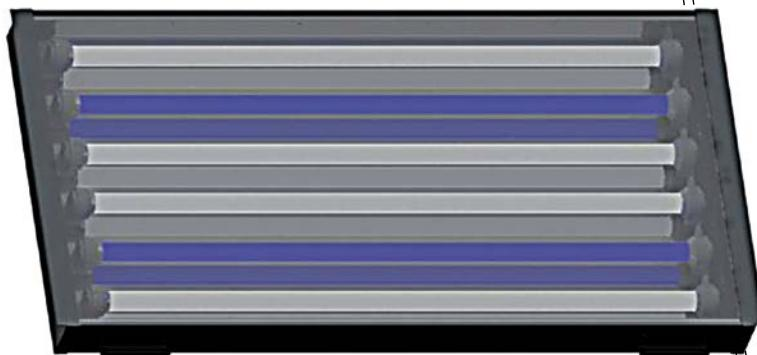

Fig. 33 Put the illumination box on its rear side and undo the screws of the side panel.
4. Turn the illumination box around and place it carefully on a smooth surface, so that the fluorescent tubes are on top (Fig. 33). Undo the four screws on the side.